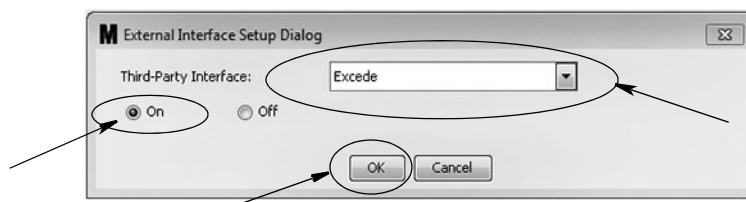

FIG. 183
2. The External Interface Setup Dialog box shown in FIG. 183 appears on the screen. From the Third-Party Interface drop down menu select Excede. Click "On" to enable the Third Party Interface.